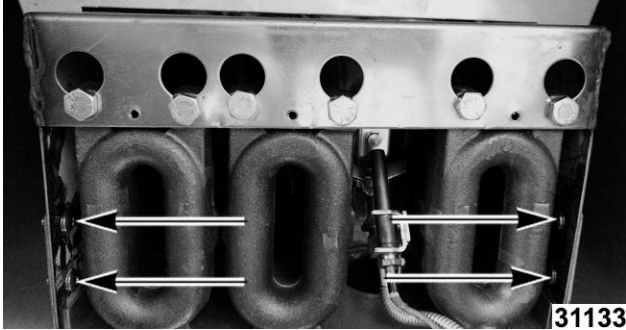

Fig. 27
8. Remove BURNERS and manifold bracket (Fig. 27).